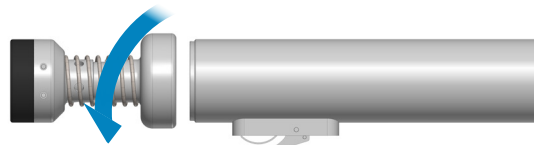

Figure 3
2. Assemble the sub-assembly with the housing (2) as shown on Figure 3.